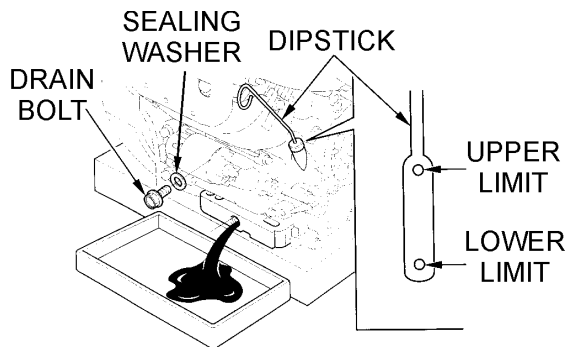

Figure 30. Draining Engine Oil
1. Drain engine oil when the oil is warm as shown in Figure 30.
7. Replace engine oil with recommended type oil as listed in Table 4. For engine oil capacity, see Table 2 (engine specifications). Fill to upper limit as shown in Figure 30.